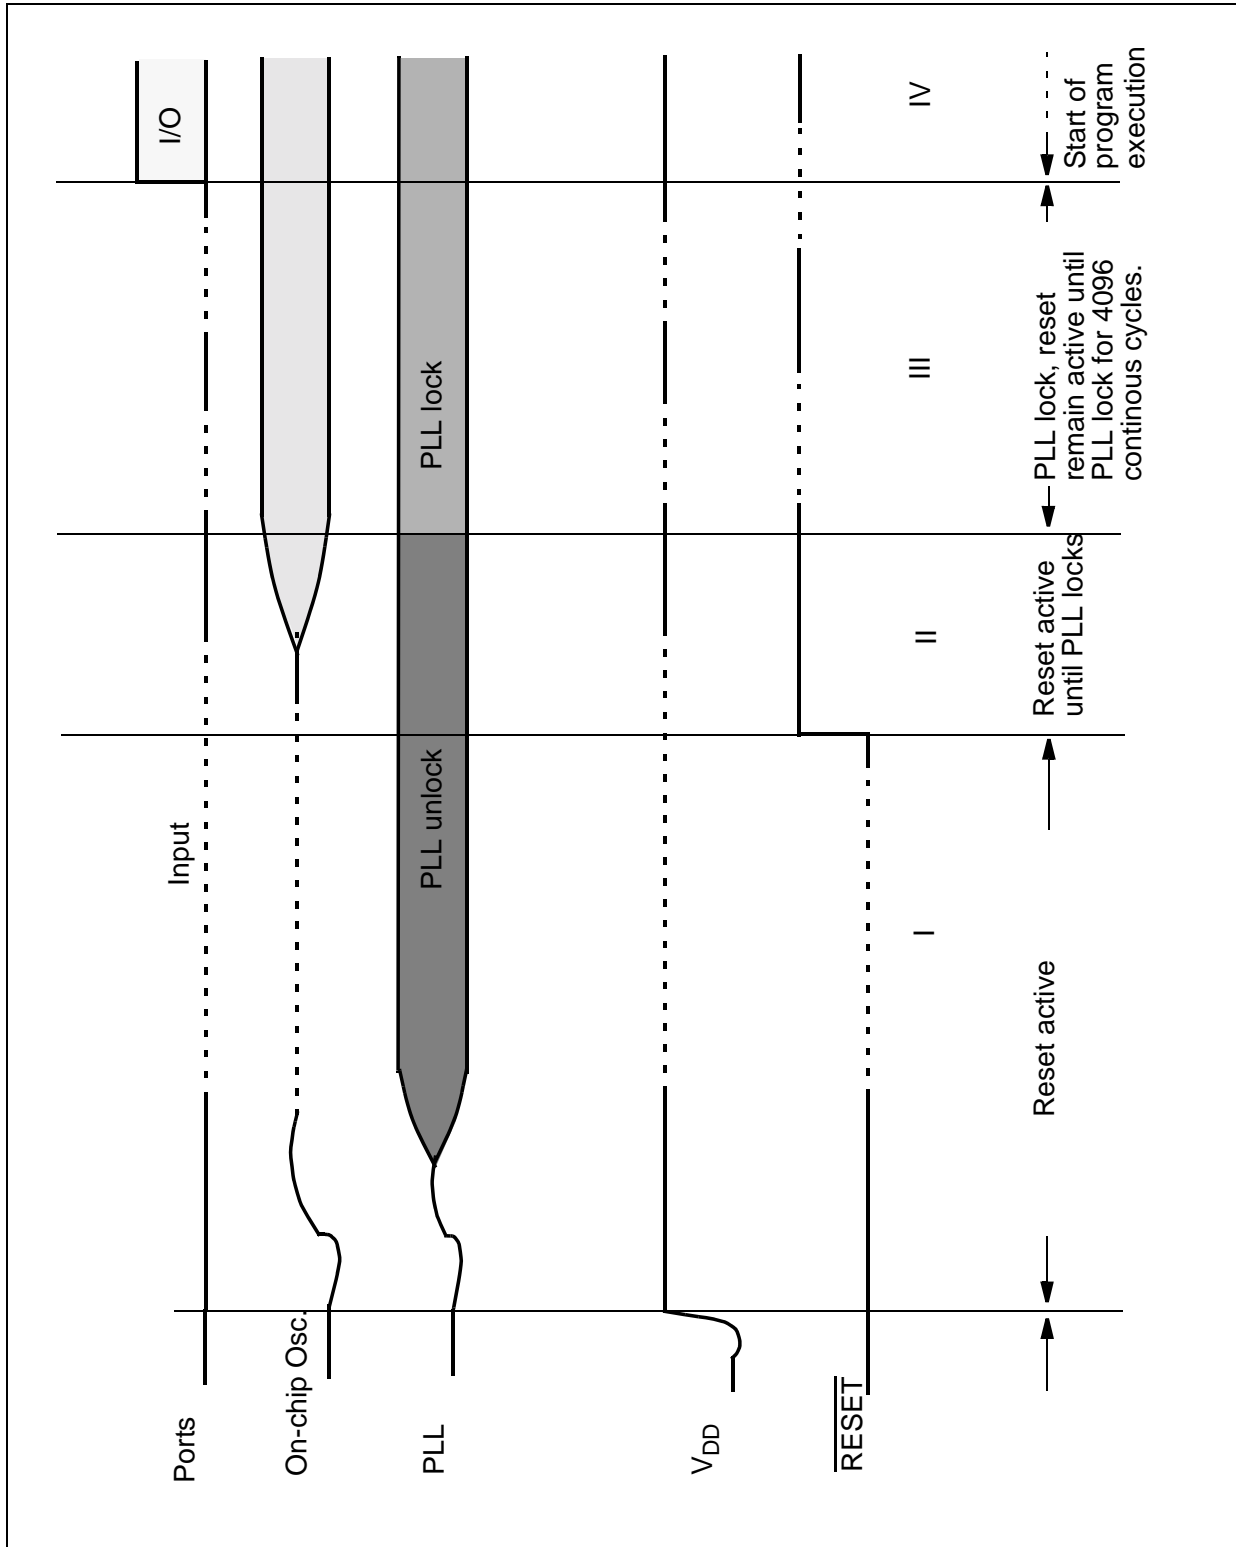

Figure 5-2 Power-On Reset of the C868
**Figure 5-2** shows the power-on sequence.
For the C868, the device enter into default reset state once  $\overline{\text{RESET}}$  has gone low with all I/O ports set to input or high impedance. The internal reset is released only after the PLL has locked. In (**Figure 5-2,II**) the internal reset remains active even after the  $\overline{\text{RESET}}$  pin had gone high, the I/O ports 1 and 3 remain as input. In (**Figure 5-2,III**), detection for continuous PLL lock is done before internal reset is released. The 4096 cycles of continuous lock detection ensures that a reset due to PLL unlock will not happen during the transient period after the PLL started functioning. After continuous PLL lock is detected, the C868 starts operation. (**Figure 5-2,IV**)